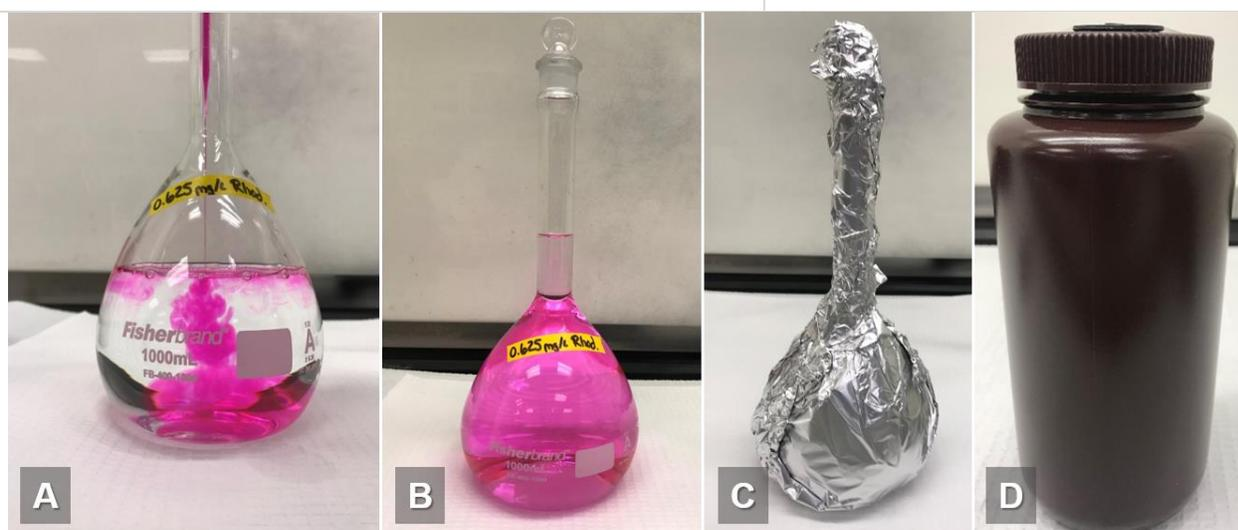

Figure 77. Prepare Total Algae/Chlorophyll calibration solution with Rhodamine WT and DI water
**STEP 3** | A and B of **Figure 77** displays the creation of a 0.625 mg/L Rhodamine WT with DI water from CVAL provided stock solution. The solution is light sensitive. Protect it from light by either covering it in foil or by using an amber HDPE container (C and D in **Figure 77**), when storing or transporting the solution to site.